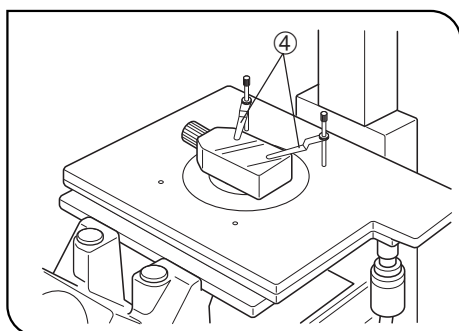

Fig. 86
4. Screw the IX-SCL stage clips ④ into the threaded holes provided on the stage top surface. (Fig. 86)